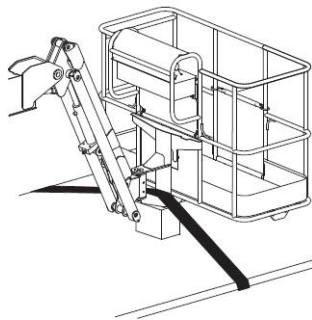

Figure 10-4 Schematic diagram of platform fixing
- 7) Place a block below the platform rotator, making sure to not make the block contact the platform cylinder. Make the nylon strap runs through the platform support to secure the platform. Do not apply excessive downward force when securing boom components, as shown in Figure 10-4.